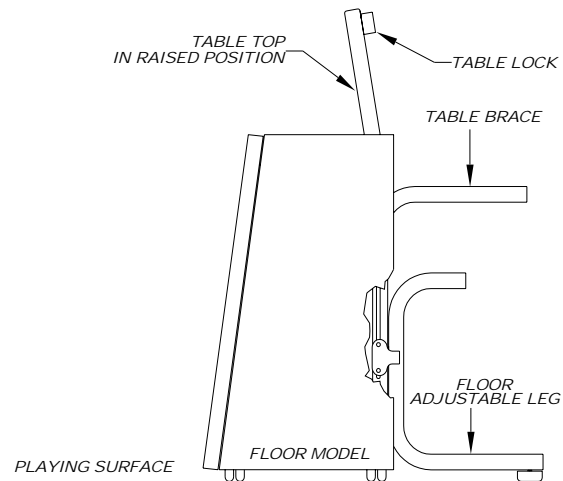

Figure 3
2. When placed in the bleachers, install a platform that fits securely in the bleacher seat, and will safely hold the weight of the scoring table with a ledge to keep from rolling back. **(See Figure 3)** Remove the pins, cotter keys, and the floor adjustable leg and install the bleacher adjustable leg, and reinstall the pins and cotter keys. **(See Figure 1)** Hang adjustable legs not in use on hooks provided on the back side of padding